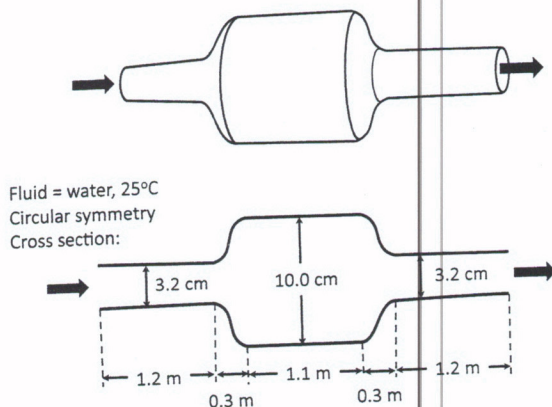

Figure 1.48
10. Water at 25°C flows at  $6.3 \times 10^{-3} \text{ m}^3/\text{s}$  through the irregularly shaped container in Figure 1.48. What is the average fluid velocity at the exit? The apparatus is open to the atmosphere at the entrance and the exit.
12. *Piping* and *tubing* are names for conduits of fluids, but the two terms differ in that the outer diameter (OD) of piping is standardized to allow pipefitters to mount pipes into standard-size holders. The tubing OD is not standardized. What are the ID and OD of nominal 1/2-inch, 3/4-inch, and 1-inch Schedule 40 pipes? Give dimensions in both inches and mm. What are the closest metric standard pipe sizes to these three sizes? Search for these answers in the literature.